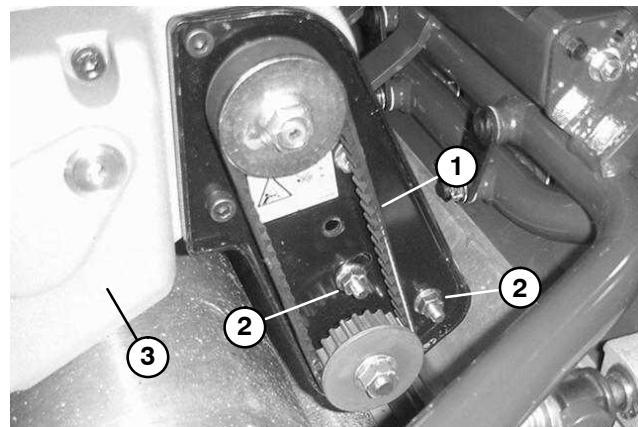
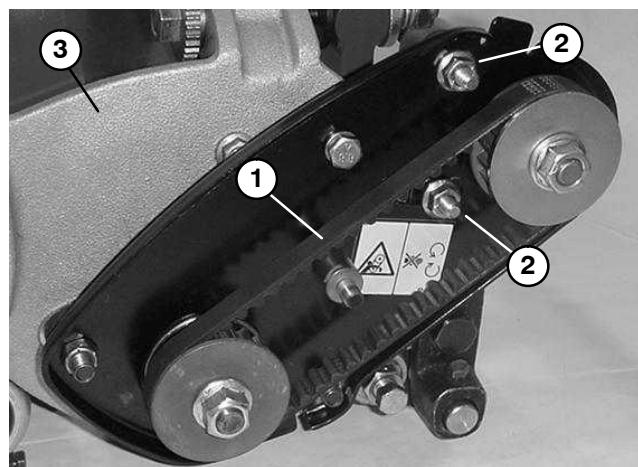

Figure 14
Figure 15
Reel Drive and Transmission Coupler Belt Replacement (Fig. 14 and 15)
2. Remove belt cover to expose appropriate drive belt: right side (Fig. 14) or left side (Fig. 15).